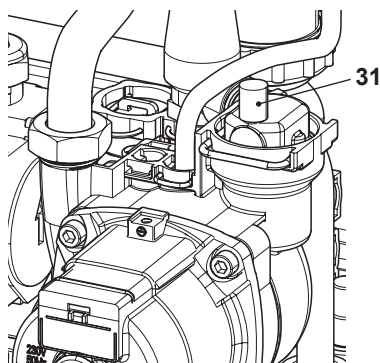

Fig. 9.11
- To make draining easier, lift the plug 31 of the automatic relief valve in Fig. 9.11.